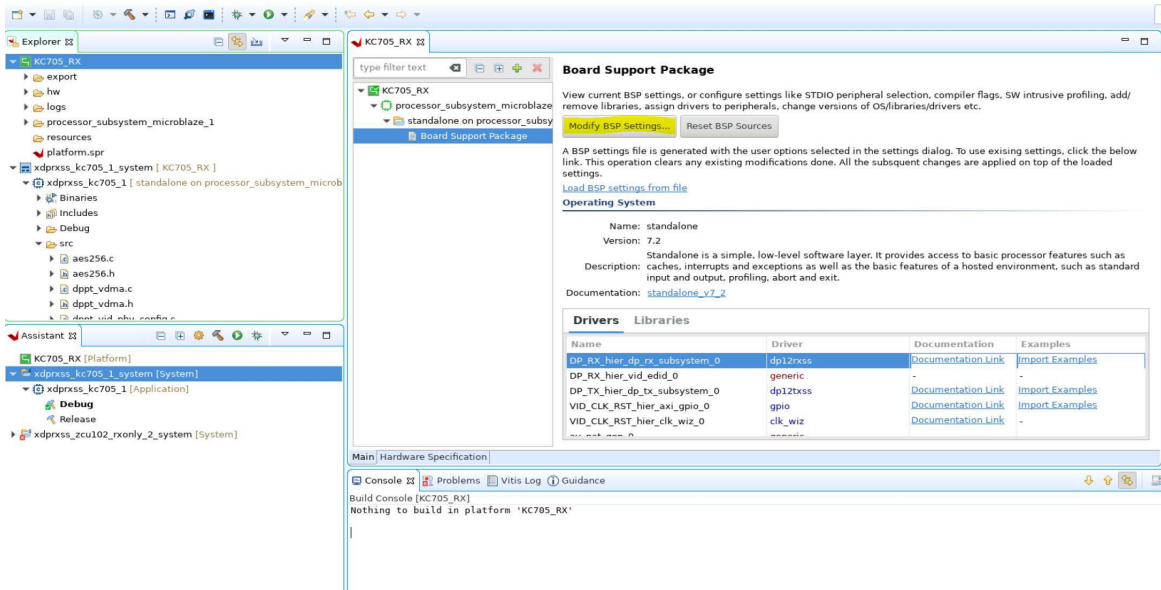

Figure D-1: Path to Board Support Package Settings
1. Open the platform project file, select Board Support Package under standalone and click **Modify BSP Settings** (Figure D-1).